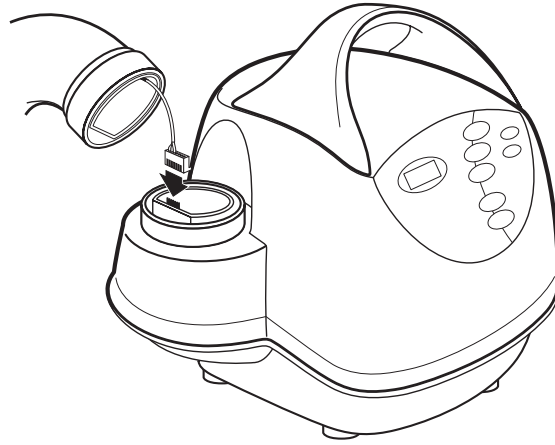

Figure 3. Hose replacement
4. By hand or using a needle-nose pliers, carefully detach the cable connector from the header plug located inside the hose connector. See "Figure 3. Hose replacement".